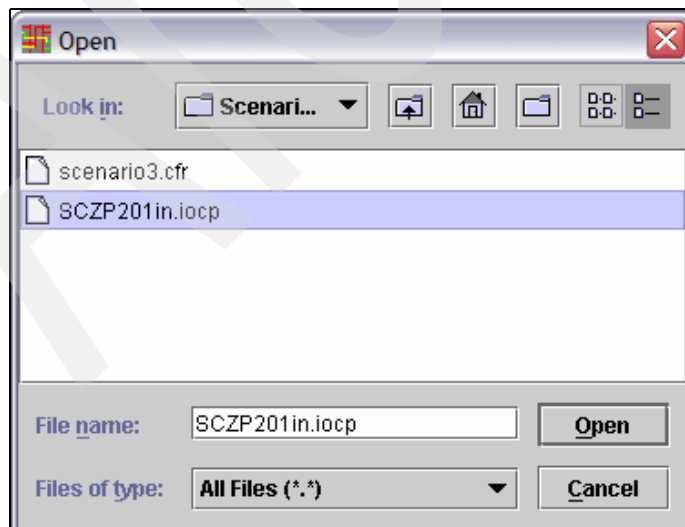

Figure 5-32 CMT - Import IOCP files
1. Import the IOCP file by clicking **Tool** → **Import IOCP File** (Figure 5-32).